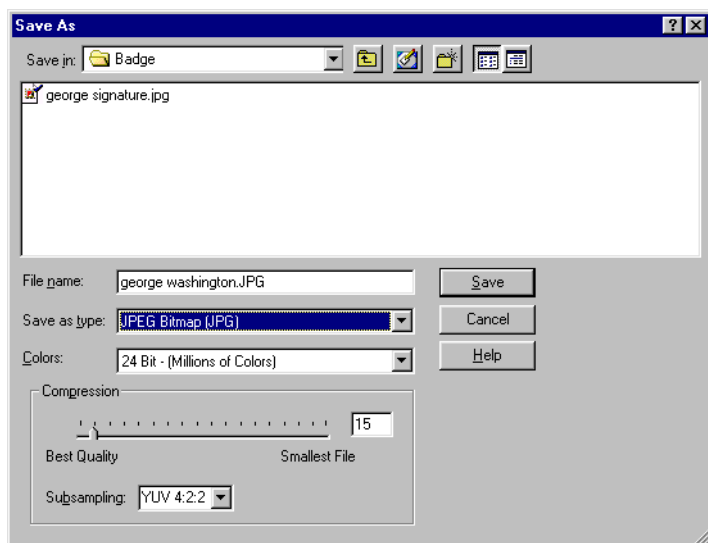

Figure 25: Export Cardholder Photo
8. If desired, the cardholder image can be exported to one of a variety of graphic file formats. Click the  button. A file Save As window appears (see Figure 25).